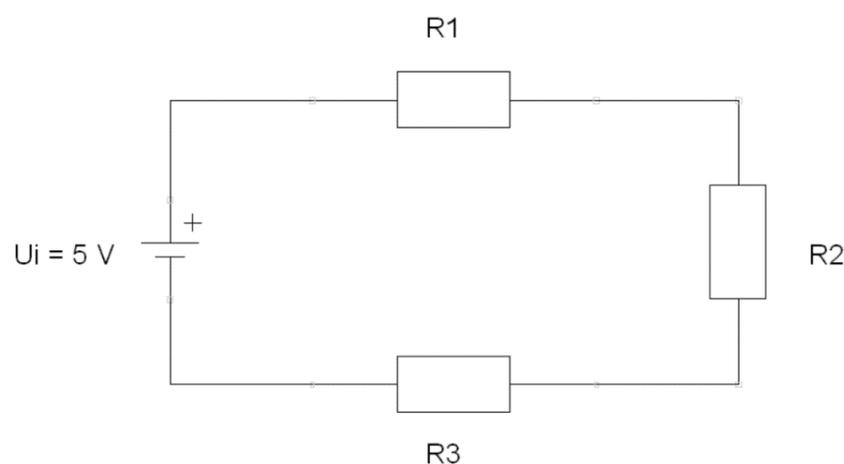

Figure 2.1: Resistors in series electrical circuit
2.1.1) The three resistors are connected in series to a direct voltage source. The series electrical circuit scheme/diagram is shown in Figure 2.1.